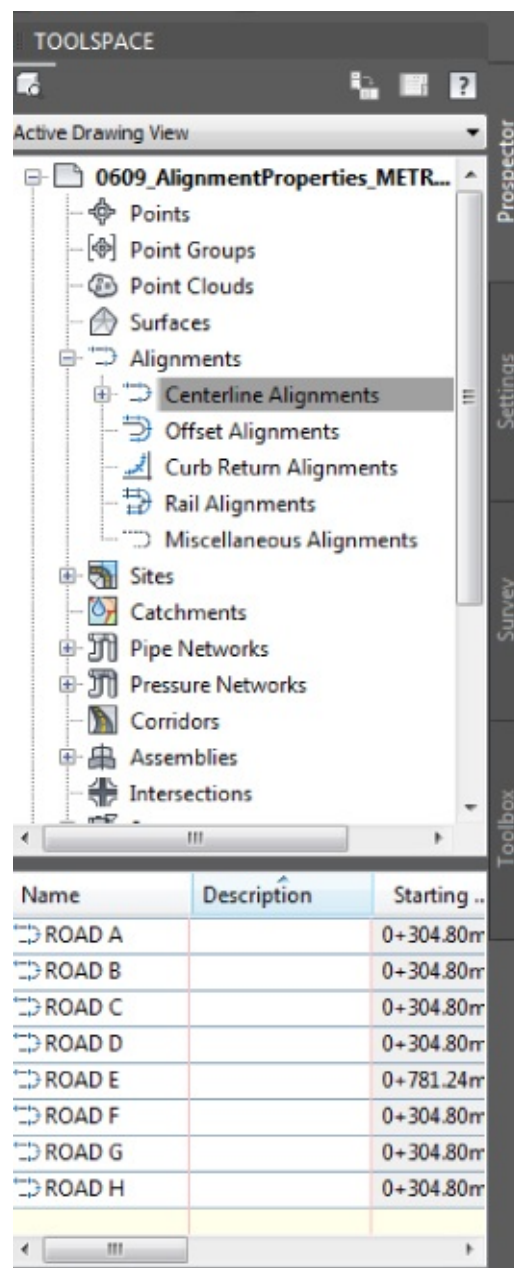

Figure 6.41 The Alignments collection listed in the preview area of Prospector
3. Click the Centerline Alignments branch, and the individual alignments appear in the Toolspace preview area (see Figure 6.41).